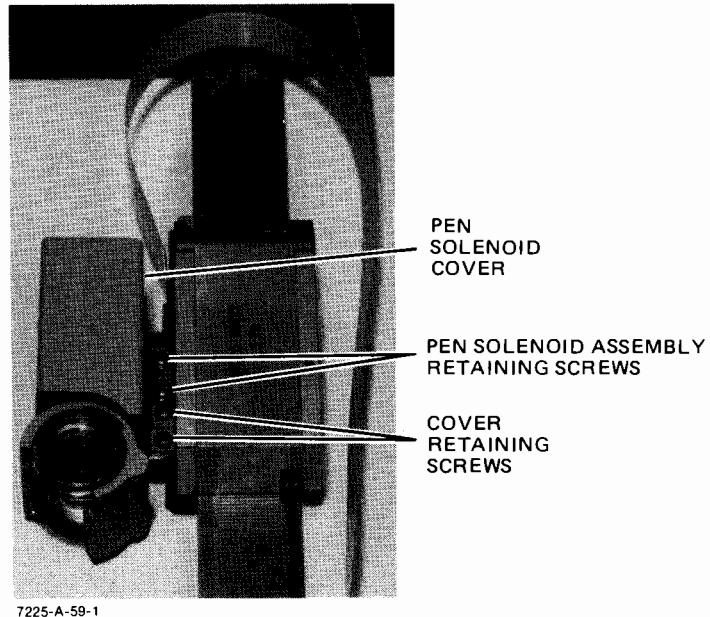

Figure 6-4. Pen Holder Access
- b. Remove the solenoid cover (two 2-56 screws). See Figure 6-4.